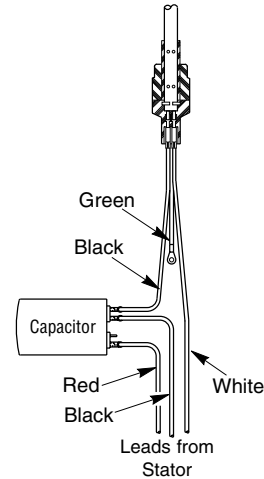

**Figure 2**
- Slide new rotating half of seal onto shaft (Figure 2).